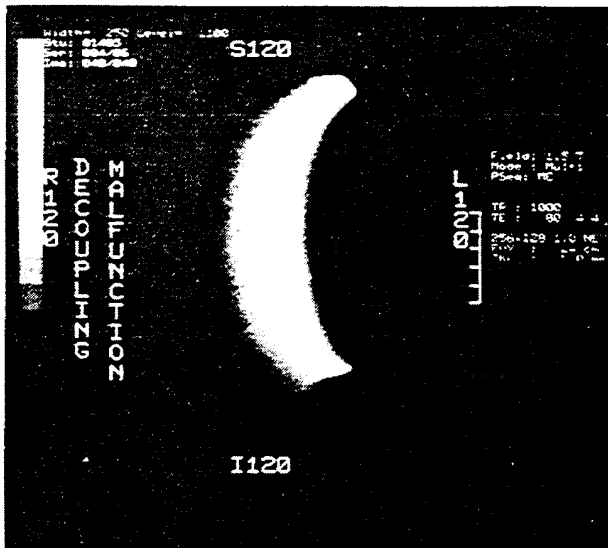

Figure 2
- 3.3 If prescan ends abnormally, or the surface coil images show hot spots, light and dark bands, or gross distortion as shown in Figure 2, the transmit decoupling network is suspect. Follow procedure in Sec. 4 and 5 for repair.